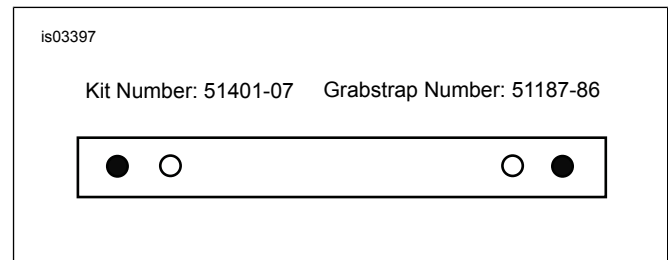
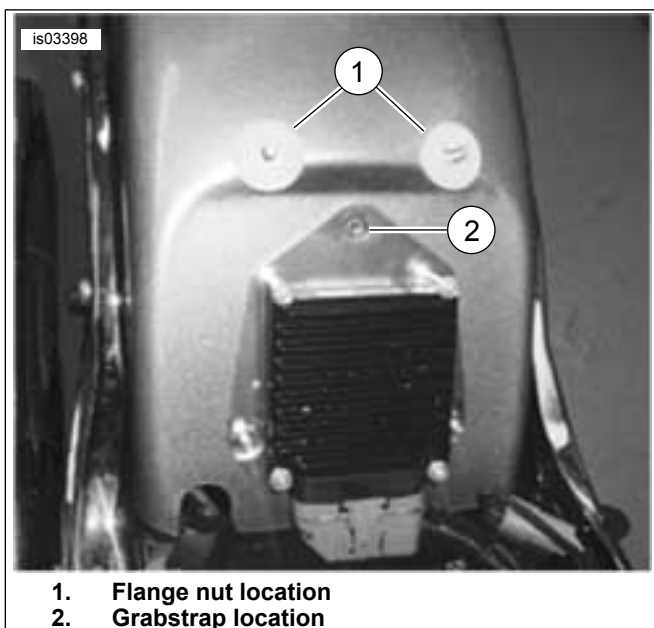
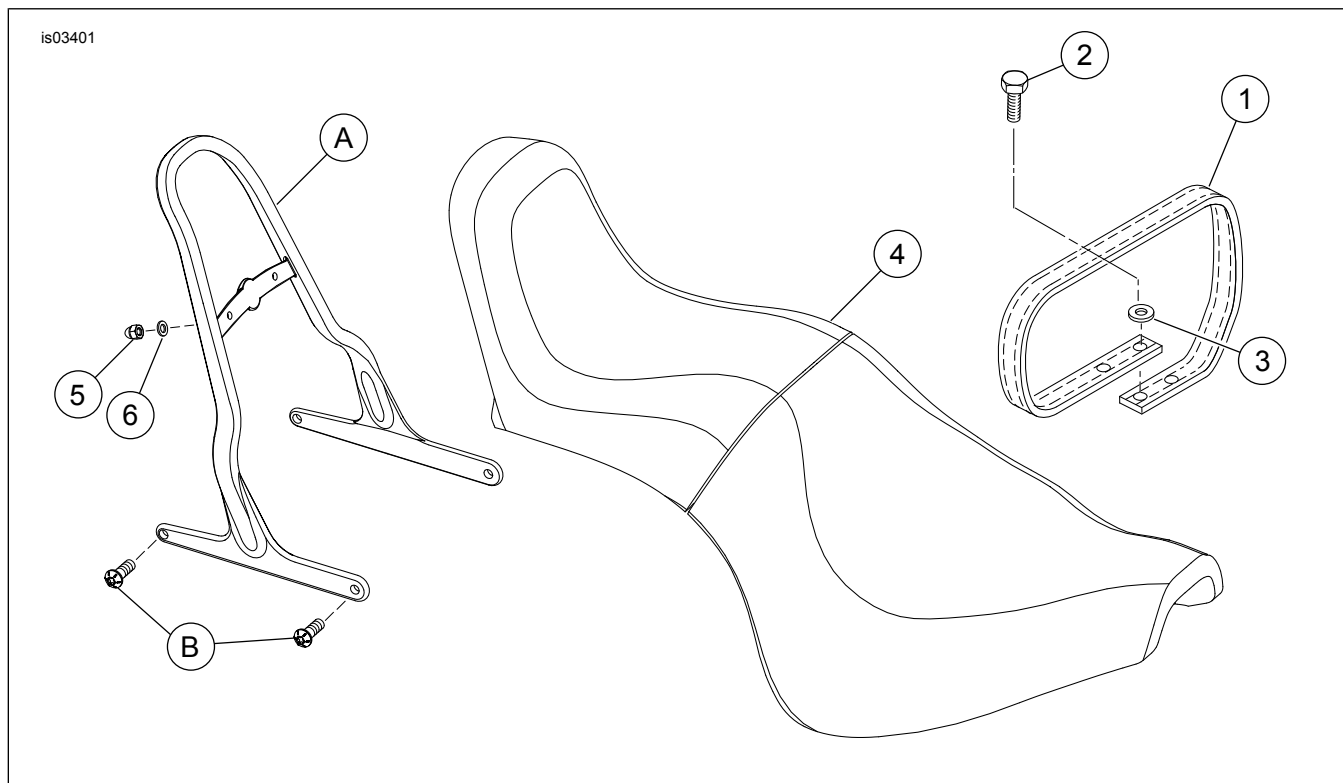

Figure 1. Grabstrap Installation
Figure 2. Grabstrap and Flange Nut (FLSTF Models)
Figure 3. Service Parts: Softail Seat Kit
See Figure 3 and Table 1.
3. See Figure 3. Install grabstrap (1) from kit using screw (2) and washer (3). See Figure 1. Line up holes on grabstrap as shown.
4. See Figure 3. Slide back of seat (4) through the grabstrap (1) and hook front tab of seat into frame.
3. See Figure 2. Install two flange nuts (1) (Table 1, Item 7) from kit onto seat mounting studs.
4. See Figure 3. Install grabstrap (1) from kit to accessory grabstrap location (Figure 2, Item 2) using screw (2) and washer (3). See Figure 1. Line up holes on grabstrap as shown.
5. See Figure 3. Slide back of seat (4) through the grabstrap (1) and hook front tab of seat into frame.